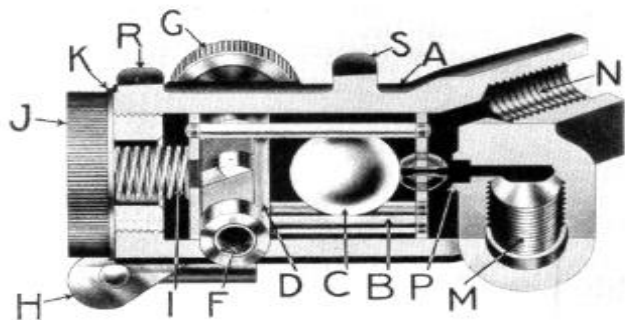

Figure 1
Figures 1 and 2 show the various parts of the unit. A is the valve body having an inlet M which is connected direct to the master cylinder and an outlet N which is connected to the wheel cylinder lines.
Figure 1 shows the position of the various parts when the clutch pedal is not depressed. When the brake pedal is depressed, fluid is forced from the master cylinder into M through the valve seat P and out N to the wheel cylinders applying the brakes.
When the clutch pedal is released, the cage B is moved forward by the rotation of camshaft D, permitting the fluid to return to the master cylinder from the wheel cylinders, as shown in Figure 1, from N through P to M.
1. Remove valve lever H—Figure 1—center punch shaft and lever to aid in reassembly.
1. Insert ball cage B, Figure 1, being sure the two large ball rails are on the underside of the camshaft D.